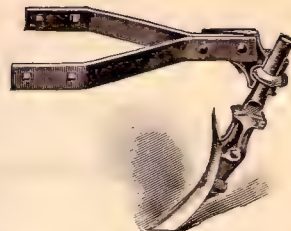

Fig. 116
**Fig. 116.** This **Fallow Tooth Attachment** will fit our Nos. 60, 61, 50 and 51 “IRON AGE” Riding Cultivators, and when applied to these tools are perfect fallow cultivators. They are used largely in orchards, and in preparing land in the Fall for the sowing of grain. **Price, \$1.00.**
We furnish this tool when ordered, with **Fallow Tooth Attachment** as shown in Fig. 116, page 25. Price, \$1.00.